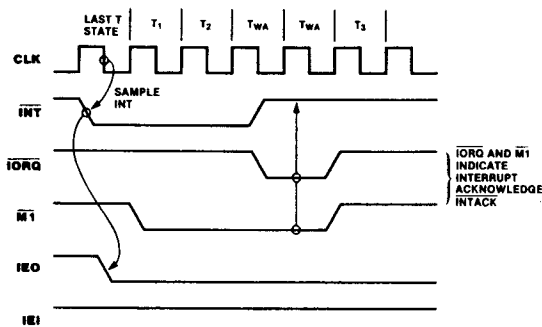

Figure 18. Interrupt Acknowledge Timing
**Interrupt Acknowledge Timing.** During  $\overline{M1}$  time, peripheral controllers are inhibited from changing their interrupt enable status, permitting the Interrupt Enable signal to ripple through the daisy chain. The peripheral with IEI High and IEO Low during INTACK places a preprogrammed 8-bit interrupt vector on the data bus at this time (Figure 18). IEO is held Low until a Return From